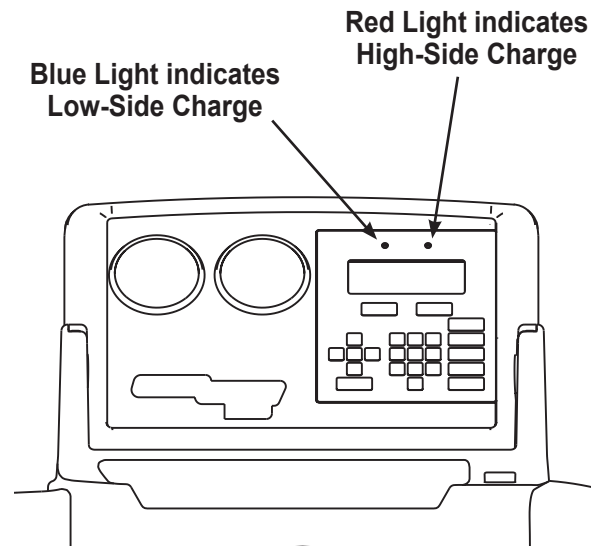

Figure 8
- The blue light on the control panel indicates a low-side charge; the red light indicates a high-side charge. See Figure 8.